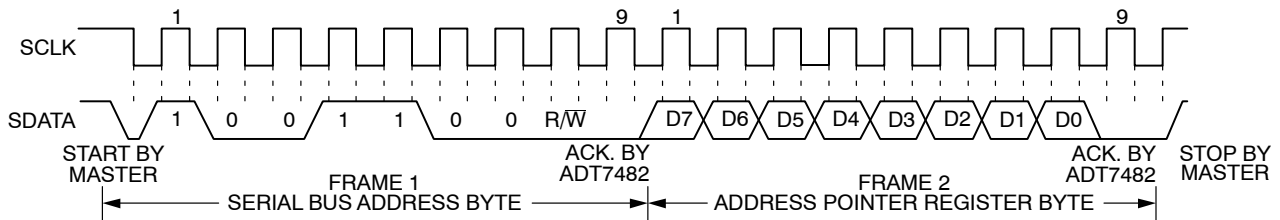
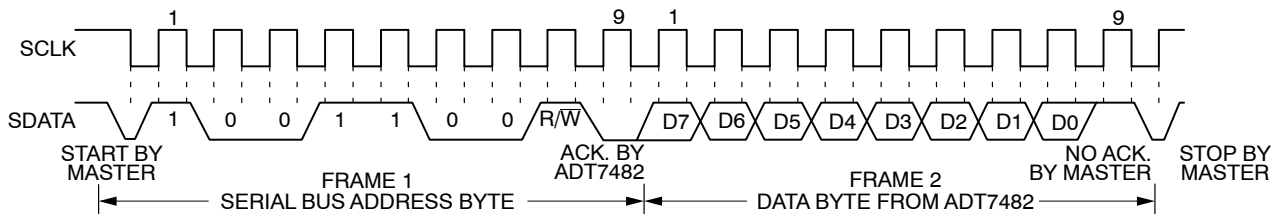

Figure 17. Writing to the Address Pointer Register Only
Figure 18. Reading Data from a Previously Selected Register
1. If the ADT7482 address pointer register value is unknown or not the desired value, it is first necessary to set it to the correct value before data can be read from the desired data register. This is done by performing a write to the ADT7482 as before, but only the data byte containing the register read address is sent, as data is not to be written to the register. This is shown in Figure 17. A read operation is then performed consisting of the serial bus address, R/W bit set to 1, followed by the data byte read from the data register. This is shown in Figure 18.
2. If the address pointer register is known to be already at the desired address, data can be read from the corresponding data register without first writing to the address pointer register and the bus transaction shown in Figure 17 can be omitted.